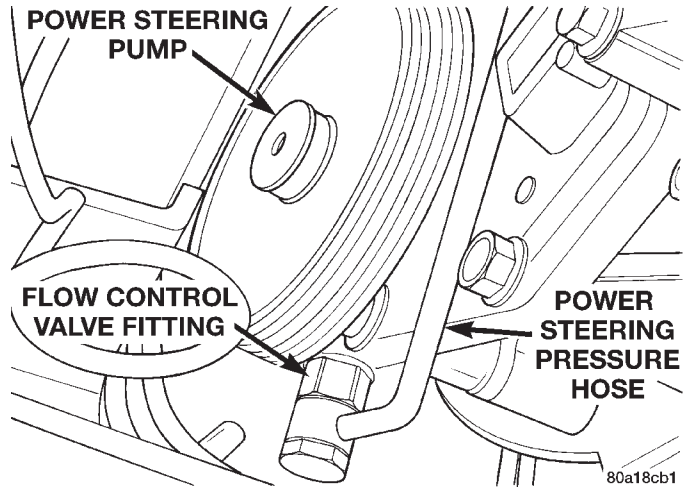

Fig. 5 Power Steering Pump Pressure Hose
(1) Disconnect the power steering fluid pressure hose from the power steering pump (Fig. 5).